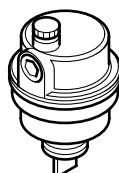

Fig. 41
- Open the automatic air vent (Fig. 41).
- If at any time during commissioning it is required to terminate a particular cycle, e.g. the pump overrun period, turn the selector to the OFF position and then back to either (ON) or (OFF).